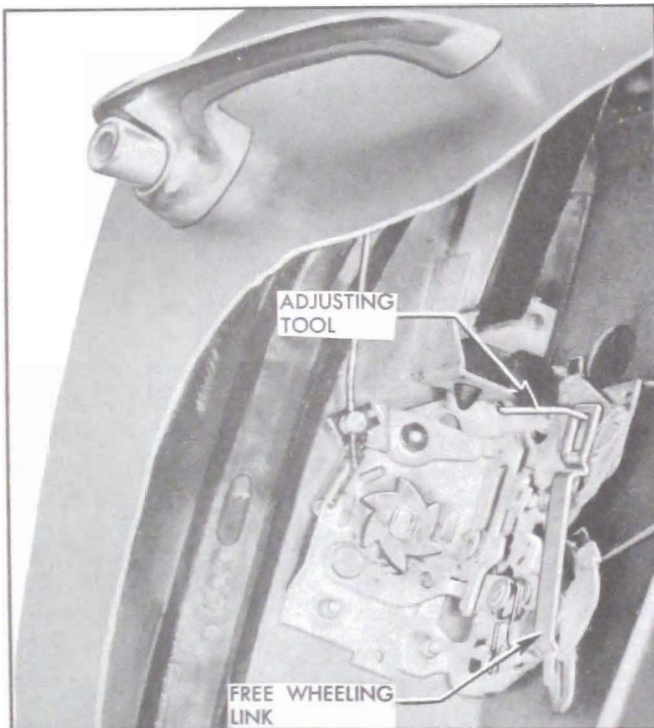

Figure 13-220—Rear Door Lock Free-Wheeling Adjustment
2. Insert adjusting tool through screw hole. See figure 13-220.
3. While observing through the window opening, with the aid of a light, engage hooked end of adjusting tool in cut-out of free-wheeling link, as shown in figure 13-220. Pull link REARWARD to set lock "OUT" of free-wheeling and push link FORWARD to set lock "IN" free-wheeling.